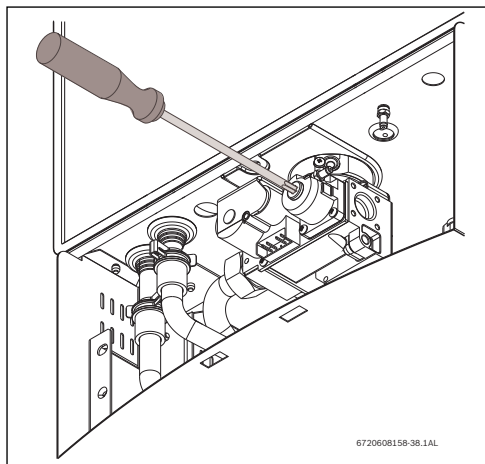

Fig. 62 Adjusting P2 CO₂ level
- ▶ Remove yellow painted #40 Torx cover from the front of the gas valve. (Fig. 62) A plastic #40 Torx screw will be revealed.